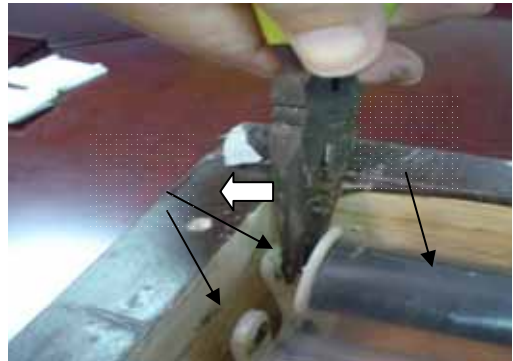
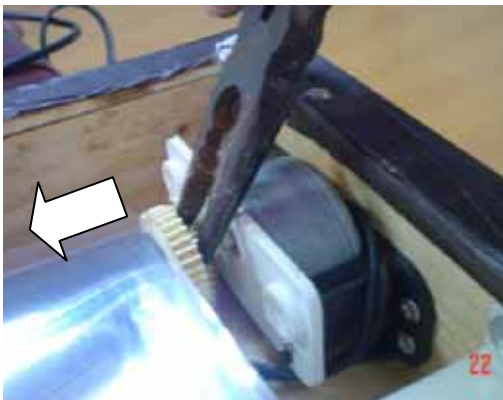

Fig.10
Fig.15
- 3, Use a clamp insert into the upward rack right side, and take out the large and small iron tubes by forth from the rack (Fig.10).
- 1, Use a clamp as Fig.10, Fig.15 to take off the iron tubes from the motor.